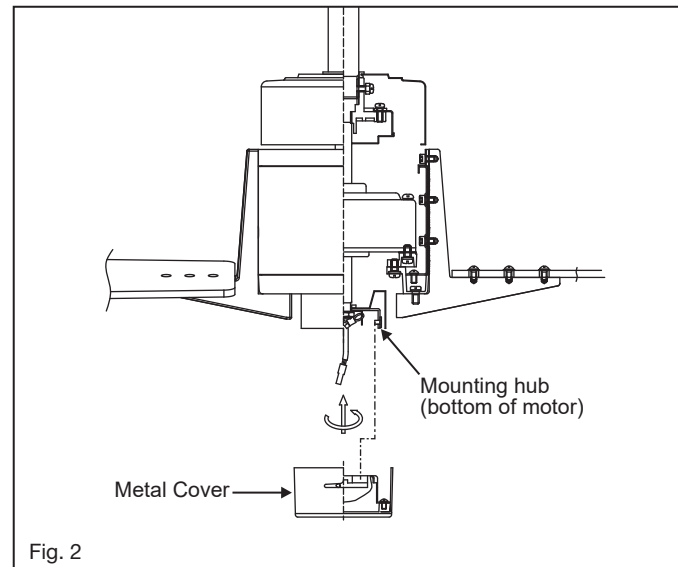

Fig. 2
- 3 Loosen the two security set screws and remove the downrod pin and cotter clip from the coupler on top of the motor assembly. (Fig. 2)
2. Make wire connections from the fan to the receiver unit. For this step use the bundle of 5 wires on the receiver. (Fig. 2)
NOTE: The metal light cover included with your fan is an option to replace the glass for the light in the event that you prefer not to use the light feature of your fan. The metal light cover is not necessary for the light operation; it can be saved for later use if desired. (Fig. 2)
- 2 Seat the cradle A into the wall plate. (Fig. 2)
-  Signal light (Fig. 2)